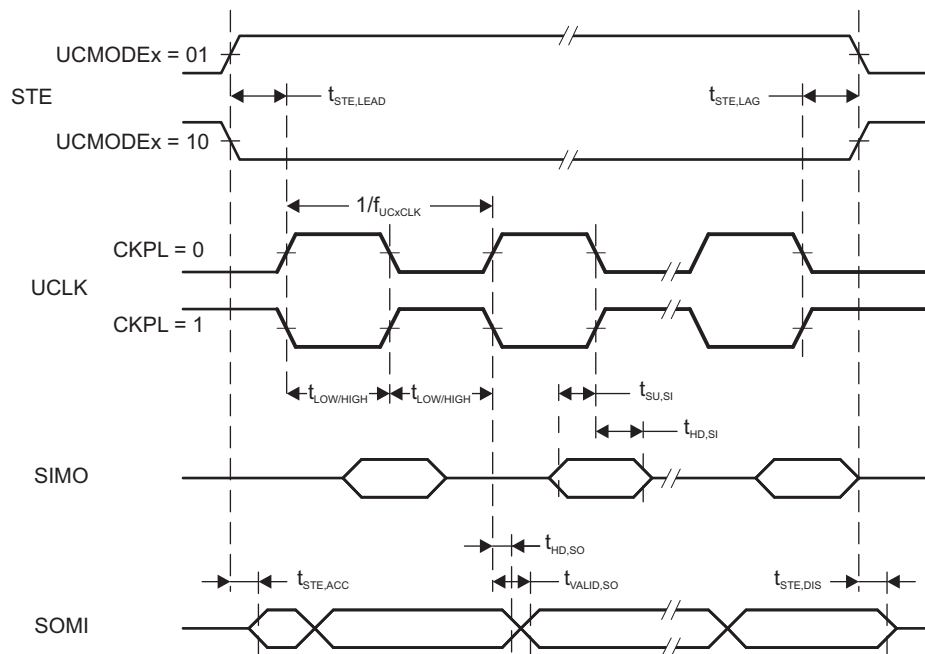

Figure 5-71. SPI Slave Mode, CKPH = 0
- (2) Specifies the time to drive the next valid data to the SOMI output after the output changing UCLK clock edge. Refer to the timing diagrams in Figure 5-71 and Figure 5-72.
- (3) Specifies how long data on the SOMI output is valid after the output changing UCLK clock edge. Refer to the timing diagrams in Figure 5-71 and Figure 5-72.